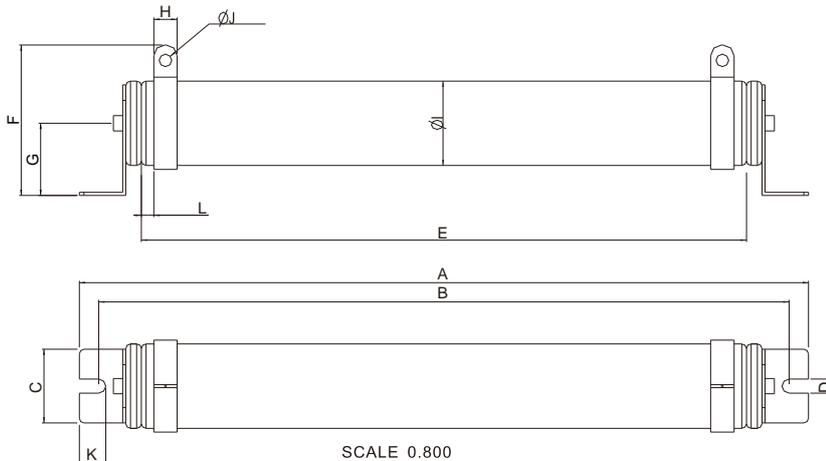

Figure 7-1
1.1 Wire wound resistors: For 1000 W and above, refer to the following appearance of wire wound resistor (Figure 7-1) and its model and specification comparison table (Table 7-5) for details.